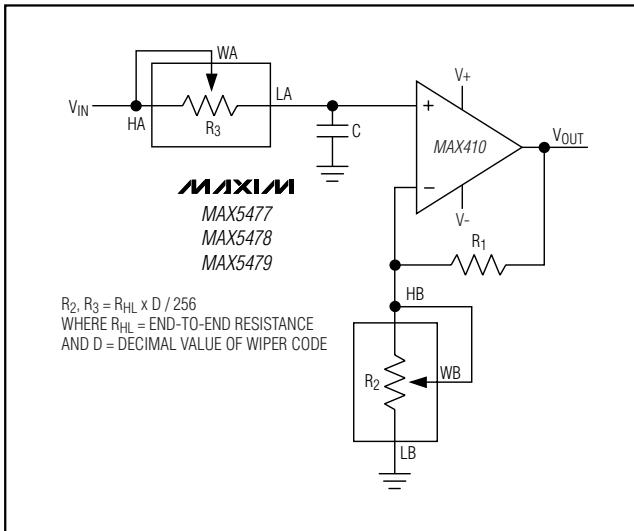

Figure 11. Programmable Filter
Figure 11 shows the MAX5477/MAX5478/MAX5479 in a 1st-order programmable application filter. Adjust the gain of the filter with  $R_2$ , and set the cutoff frequency with  $R_3$ . Use the following equations to calculate the gain (A) and the -3dB cutoff frequency ( $f_C$ ):